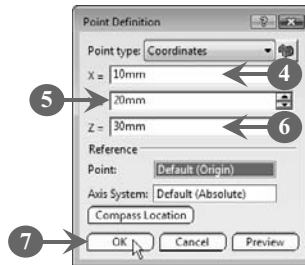

FIGURE 5.48
The **Point Definition** dialog box opens (**Figure 5.48**).
4. *Enter* a value representing the  $x$ -coordinate for the center of the cylindrical surface in the **X =** box (**Figure 5.48**). In our case, we have entered **10 mm**.
5. *Enter* a value representing the  $y$ -coordinate for the center of the cylindrical surface in the **Y =** box (**Figure 5.48**). In our case, we have entered **20 mm**.
6. *Enter* a value representing the  $z$ -coordinate for the center of the cylindrical surface in the **Z =** box (**Figure 5.48**). In our case, we have entered **30 mm**.
- Click the **OK** button to close the **Point Definition** dialog box, as shown in Figure 5.48: